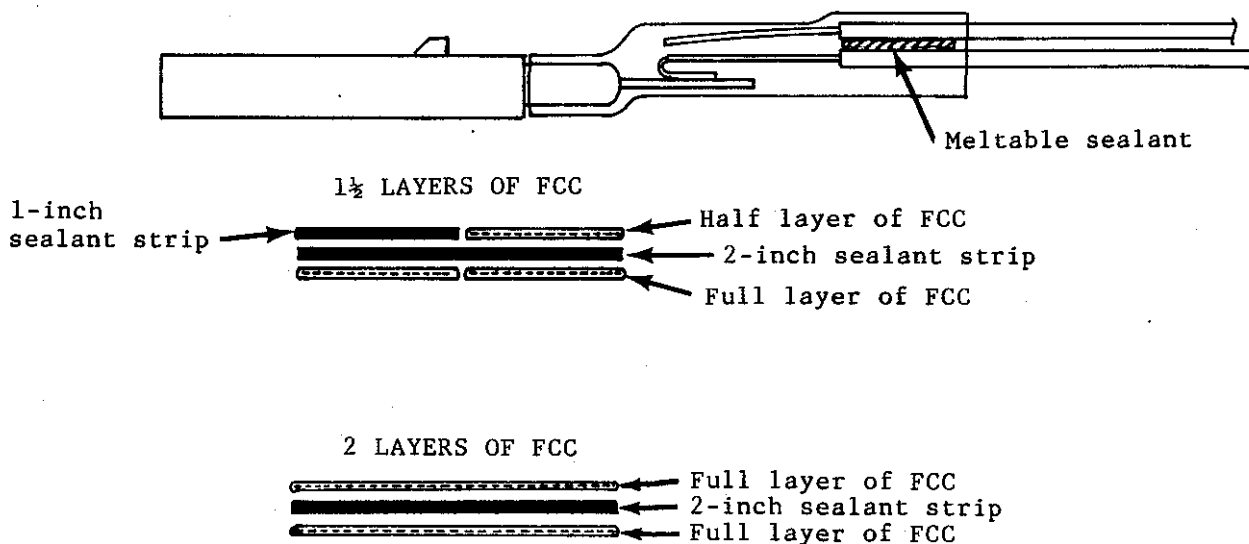

Figure 5-6. CTA-0055 Sealant Inserted Between FCC Layers
3. (Inserts with 1-1/2 or two layers of FCC only) Install a full (2-inch) strip of meltable sealant between the two layers and across the full width of the connector insert. In 1-1/2 layer configurations, install an additional short (1-inch) strip of sealant beside the half layer (Figure 5-6).